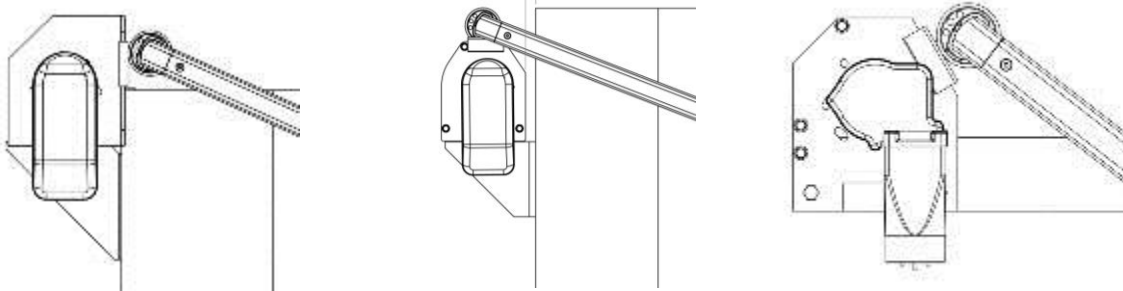

Fig. 18
9. Swing the assembled tarp bow forward until it rests on the head assembly. The bow should be resting on the rubber bumpers on the tarp spool (see **Figure 18**) this will vary based on type of tarp spool. If the bow is not landing properly on the rubber pad as desired, loosen the 4 set screws that hold the side arms into the pivots and adjust both bows. Bow side should be adjusted evenly. Lightly re-tighten the set screws.